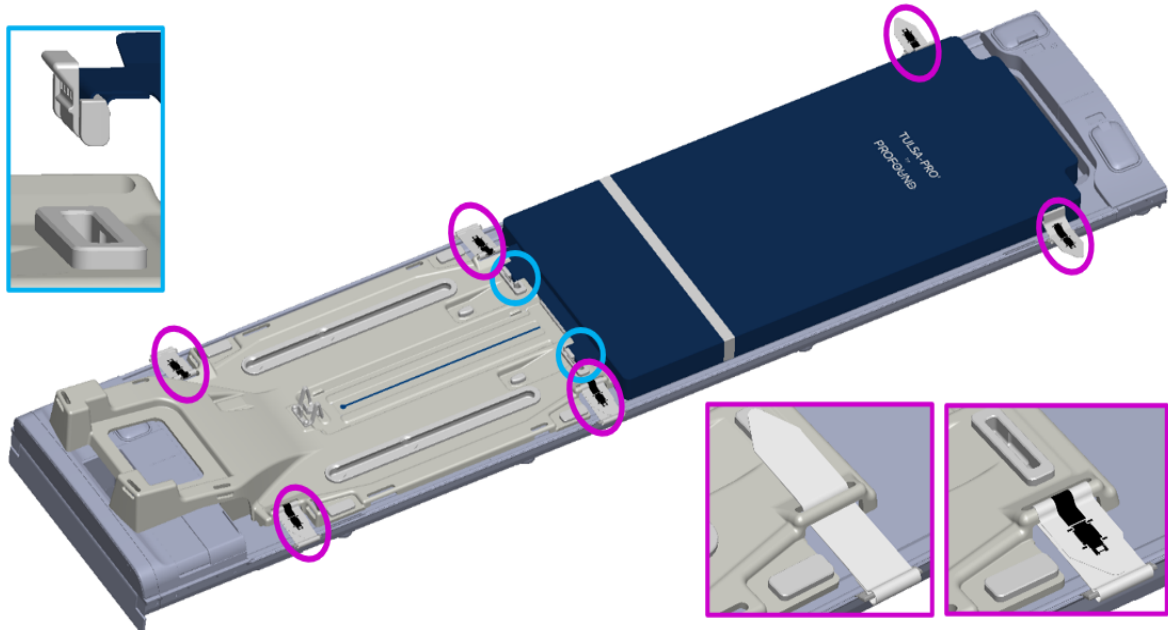

Figure 2: Securing the base plate and patient pad to the MRI bed
1. **MRI Technologist** Attach the base plate onto the foot end of the MRI table and secure using the four base plate straps (*Figure 2*, your configuration might not match exactly as shown). The feet of the base plate should fit in the rails of the MRI table and not move around when in position.
2. Place the patient pad on the MRI table and secure it using the provided straps shown in (Figure 2, your configuration might not match exactly as shown).
5.b.ii Preparing a Work Surface and Connecting the Positioning System (PS)